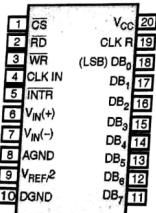
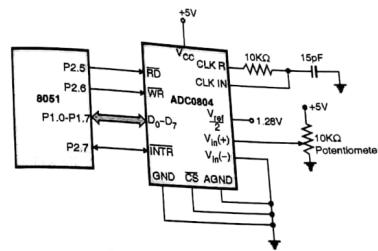

Fig. 10.5.1 : Pin diagram of ADC 0804
Fig. 10.5.2 : Interfacing ADC 0804 to Microcontroller 8051
- The pin configuration and functional block diagram of ADC 0804 are as shown in Fig. 10.5.1 and Fig. 10.5.2 respectively.
- As shown in Fig. 10.5.2 the ADC contains a circuit equivalent of the 256 R network.
Fig. 10.5.2 shows the interfacing of ADC 0804 to 8051.